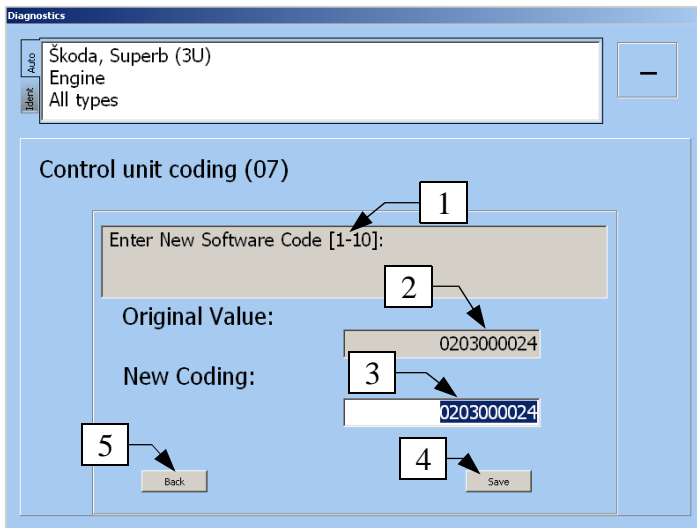
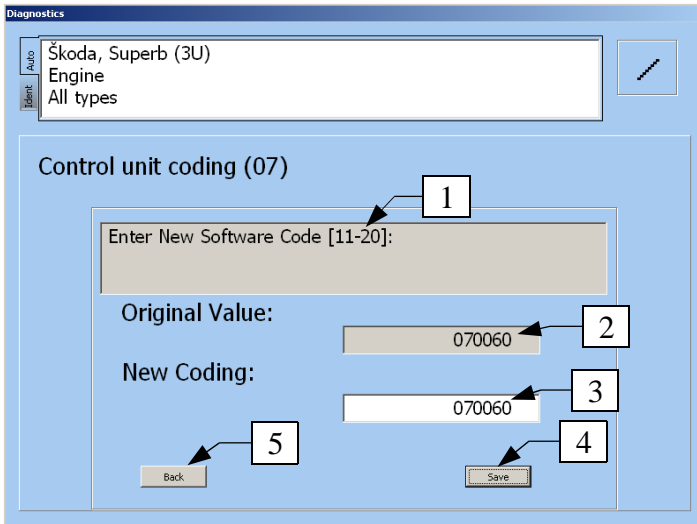

Figure 6.27
Figure 6.28
The string is divided into groups of 10 characters. You can see information about current part of the code in the upper part of the window (2 and 3). On the Figure 6.27 you can see a window with the first group of characters. If you have set the desired value (3), press the Save button and you will either be able to set the next 10 characters (Figure 6.28), in our case it is only 4 characters, or if there are no characters left you will be asked for final confirmation of the coding change (6.25) and if you do so a window with result appears (6.26). If you press the Back button during the changes, the function is aborted with no changes.